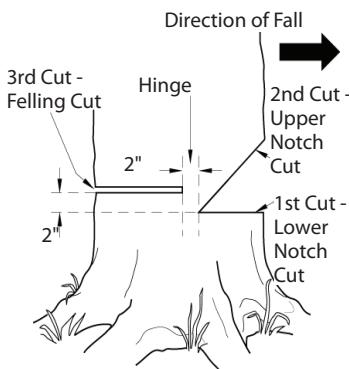

Figure 15 - Felling A Tree
A properly placed felling notch will determine direction tree will fall. Place felling notch on side of tree in direction you want tree to fall (see Figure 15).
1. Make lower notch cut as close to ground as possible. Hold saw so guide bar is horizontal. Cut 1/3 the diameter of tree trunk (see Figure 15). *Note:* Always make this horizontal lower notch cut first. If you make this cut second, tree can pinch chain or guide bar.
1. Make felling cut two inches higher than lower notch cut and on opposite side of tree (see Figure 15, page 14). Keep felling cut parallel to lower notch cut.
WARNING: Do not cut all the way through tree. Leave about two inches of tree diameter uncut directly behind felling notch (see Figure 15). This uncut portion acts as a hinge. The hinge helps keep tree from twisting and falling in wrong direction.